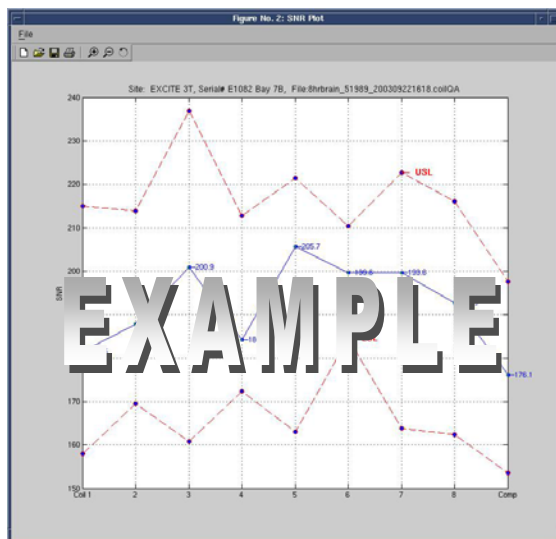

Figure 12: Nominal Individual Element results.
Step 8 – A plot window with SNR plots will open (see *Figure 12*).